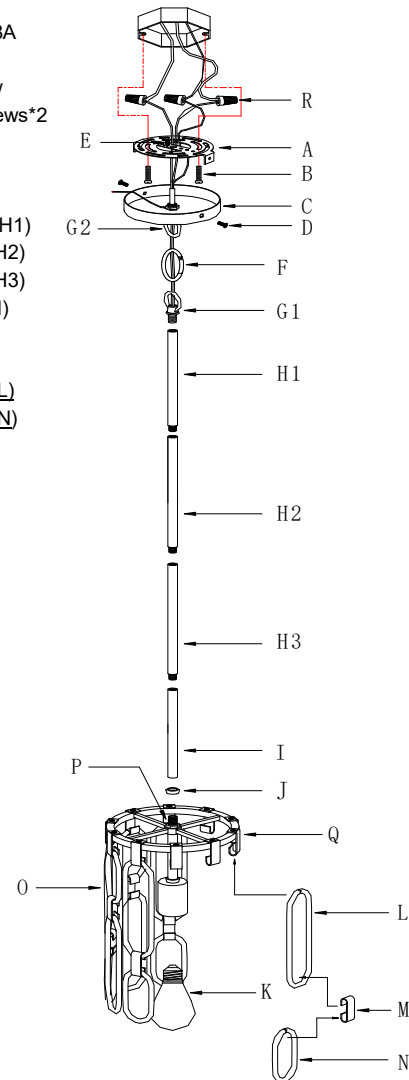

Fig. 2
CONNECTING THE WIRES (Fig. 2)
7. Connect the electrical wires as shown in (fig 2), making sure that all wire connectors are secured. If your junction box has a ground wire (green or bare copper), connect the fixture's ground wire to it. Otherwise, connect the fixture's ground wire directly to circular strap (A) using the green screw provided.